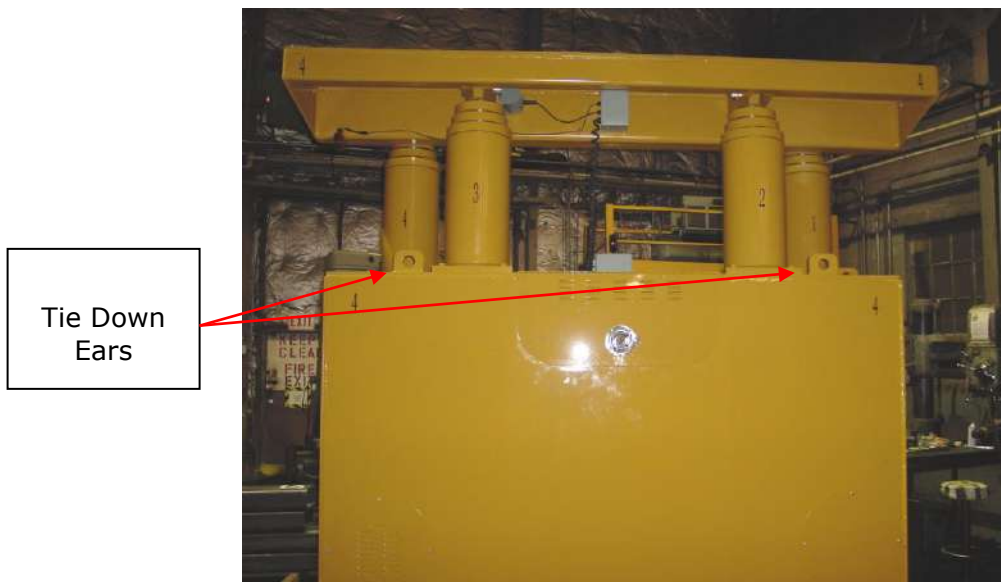

Figure 6.1 - Tie Down Ears
4. Attach chains from the tie down ears to the trailer (see figure 6.1).